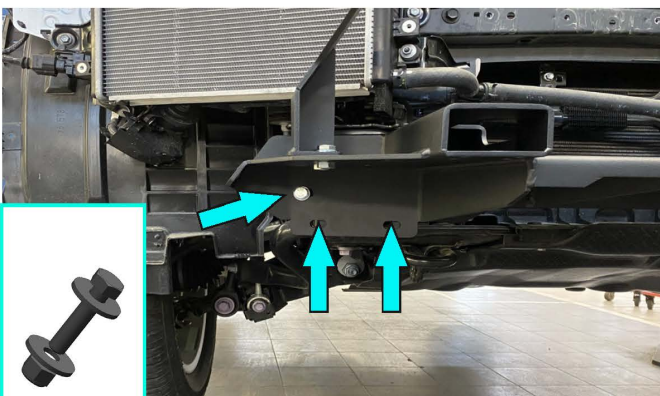

Fig.23
23. Fix winch bracket (item 9) on both sides of the vehicle using bolts M10x30(item F), washers 10 (item P), nuts M10 (item M) and OE bolts as shown in fig.23.